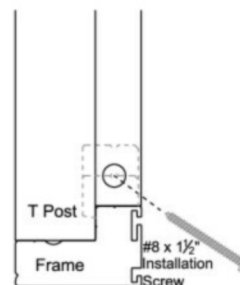

Fig. 7.3
- With the bottom of the T Post in the desired position, drive a #8 x 1 1/2" installation screw horizontally through the pre-drilled hole in the end of the T Post. (See Fig. 7.3)
- The screw will then pass between the (2) T Post Blocks, thus locking the T Post into position.